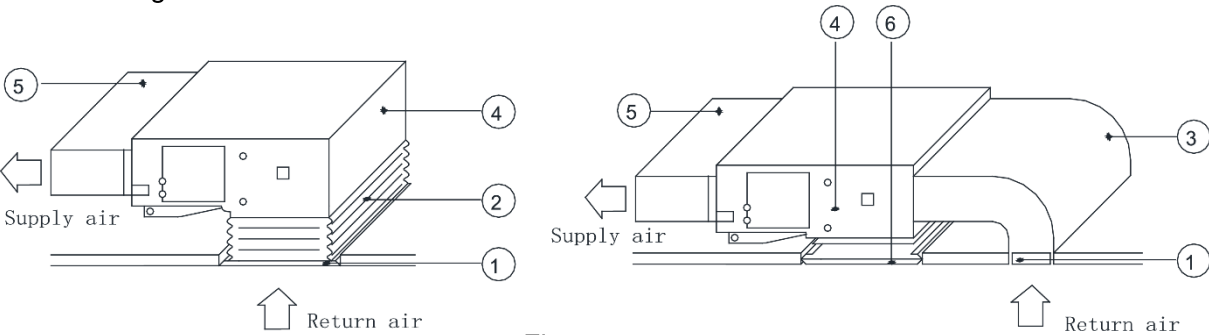

Fig 9.4.7
- (2)If the bottom return air is desired, just change the place of the rectangular flange and the return air cover plate.
- (3)Connect one end of the return air duct to the return air outlet of the unit by rivets and the other to the return air louver. For the sake of the convenience to freely adjust the height, a cutting of canvas duct will be helpful, which can be reinforced and folded by 8# iron wire.
- (4)More noise is likely to be produced in the bottom return air mode than the rear return air mode, so it is suggestive to install a silencer and a static pressure box to minimize the noise.
- (5)The installation method can be choosen with considering the conditions of the building and maintenance etc. as shown in Fig 9.4.7